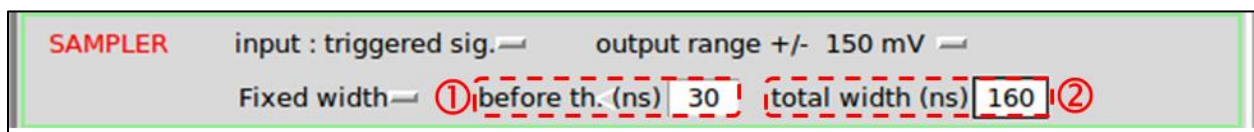
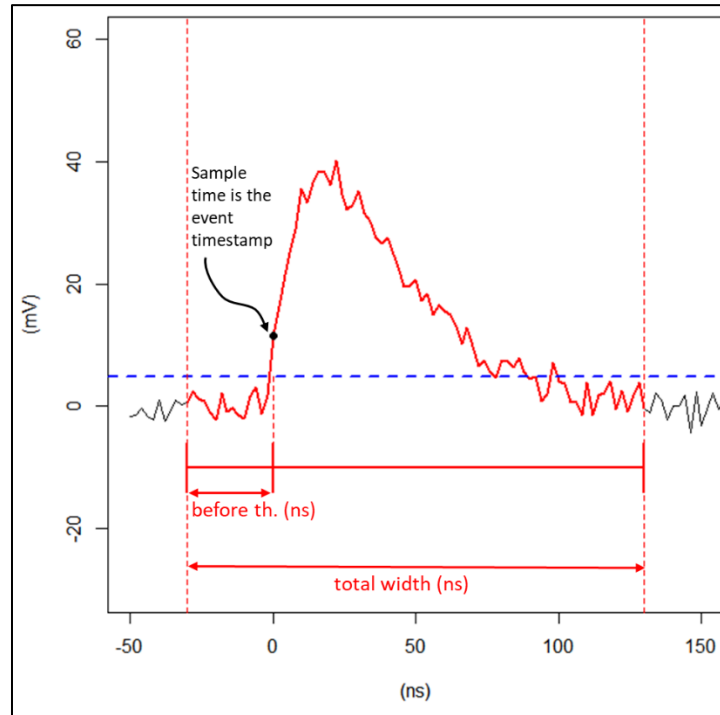

Figure 28: “Fixed width” parameters interface.
Figure 29: Parameters of "Fixed width" mode
In “Fixed width” mode, the user chooses the duration between 0 ns and 80 ns (Figure 28 ①) he wants to acquire before the first sample of the pulse above the trigger threshold (cf. Figure 29).
He also selects the total duration of the frame he wants to acquire (Figure 28 ②). This duration may not exceed 1428 ns. It must be a multiple of 4 ns, because the number of samples in the SAMPLER output data must be even and the sampling step is 2 ns.